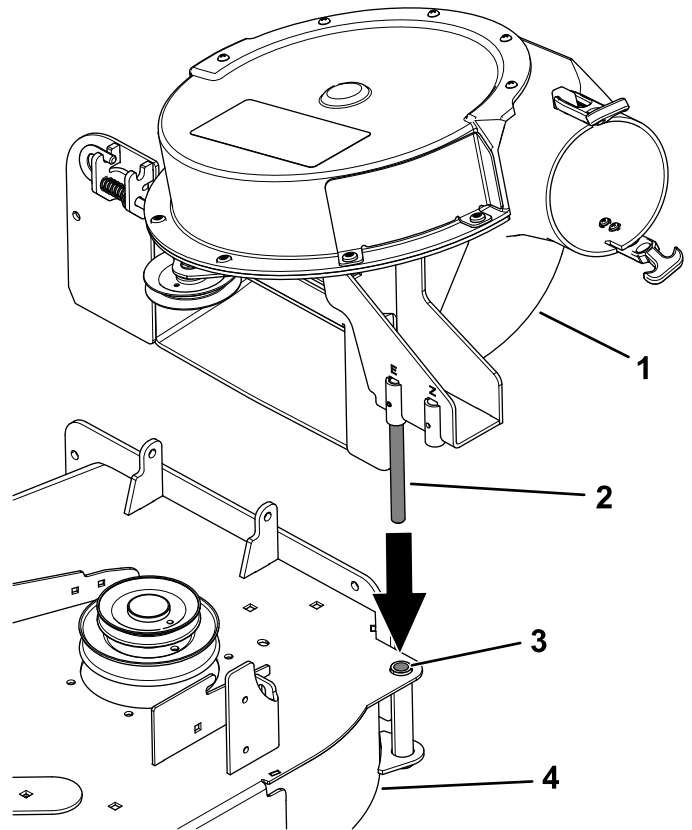

Figure 18
1. Align the pivot pin on the blower with the pivot-pin hole in the mower deck (Figure 18).
3. Lower the blower and slide the pivot pin into the pivot hole (Figure 18).